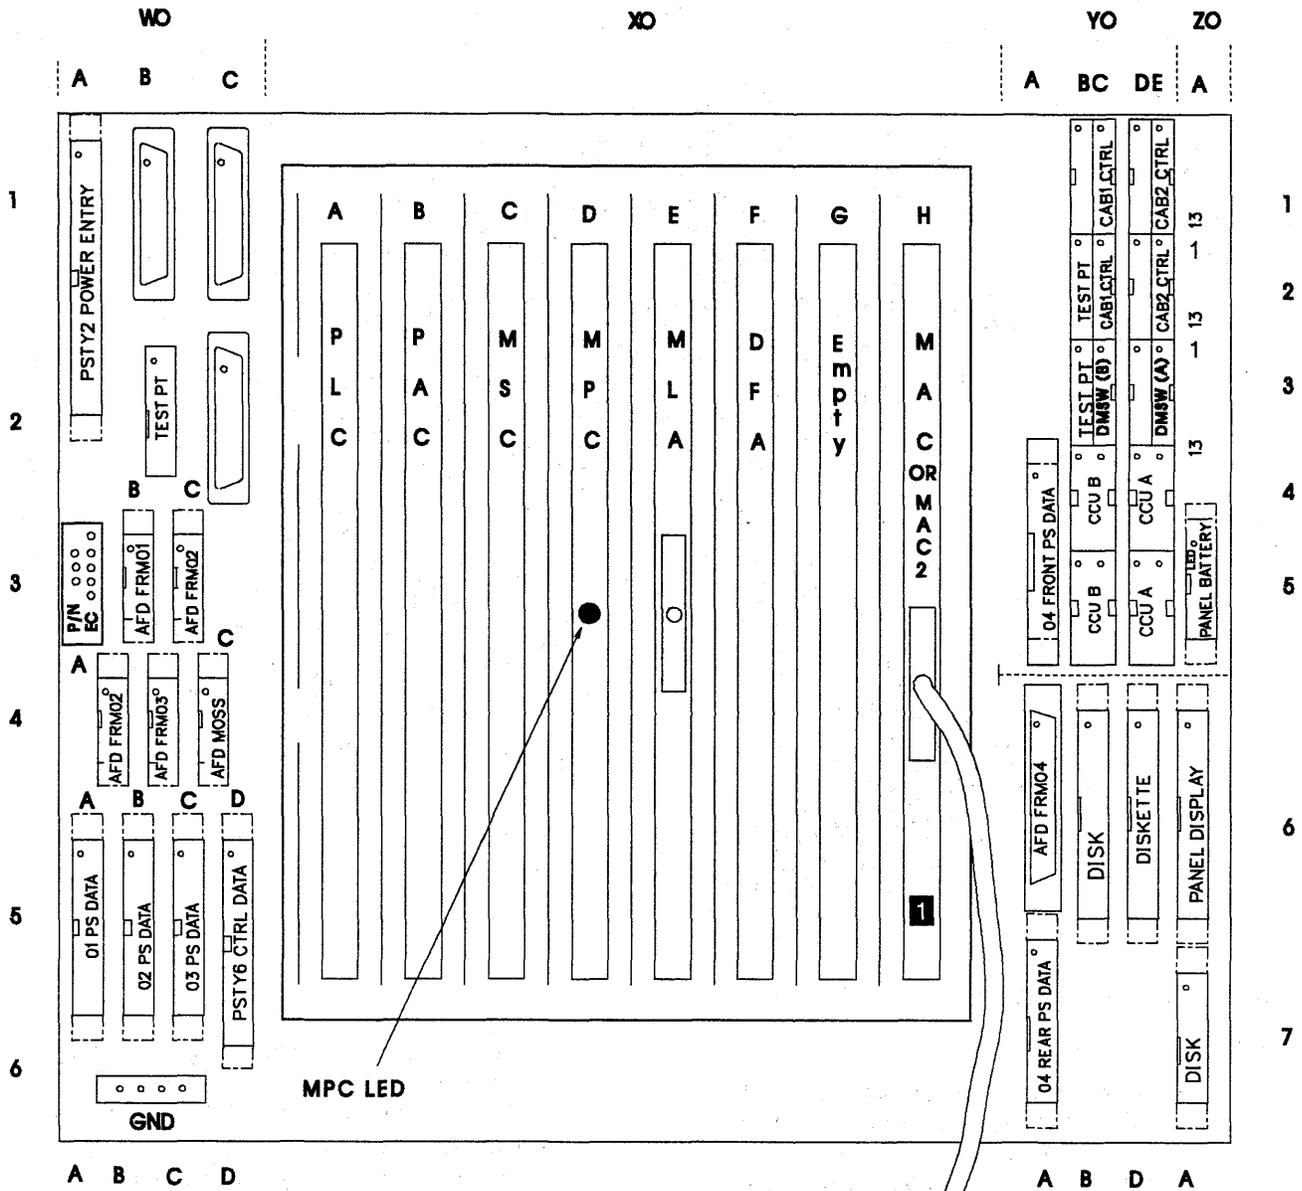

Figure 4-146. 3745 MOSS Board, Cards, and Connectors for Models 21A-61A
- 7. Refer to Figure 4-145 on page 4-158 for Models 210-610 or Figure 4-146 for Models 21A-61A.